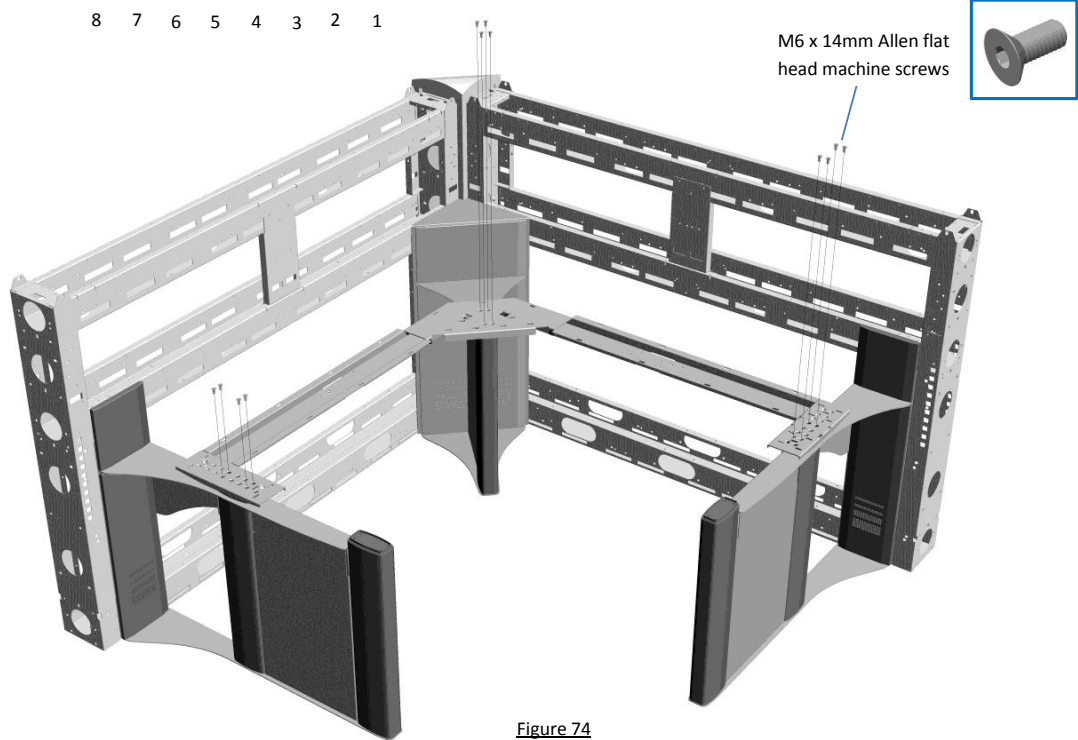

Figure 74
Attach the frame to the lift motors using (4) M6 x 14mm Allen flat head machine screws for each motor. See figure 74.